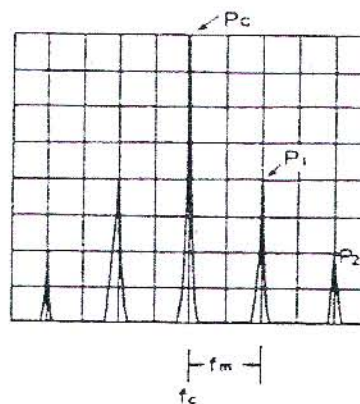

Fig. 6-2 AM Wave Spectrum Display
(2) AM wave measurement
When an AM wave is displayed, as shown in Fig. 6-2, by the measurement procedure described in (1), the carrier frequency  $f_c$ , modulation frequency  $f_m$ , and their levels  $P_c$ ,  $P_1$ , and  $P_2$  (dBm or dBμ) can be measured.